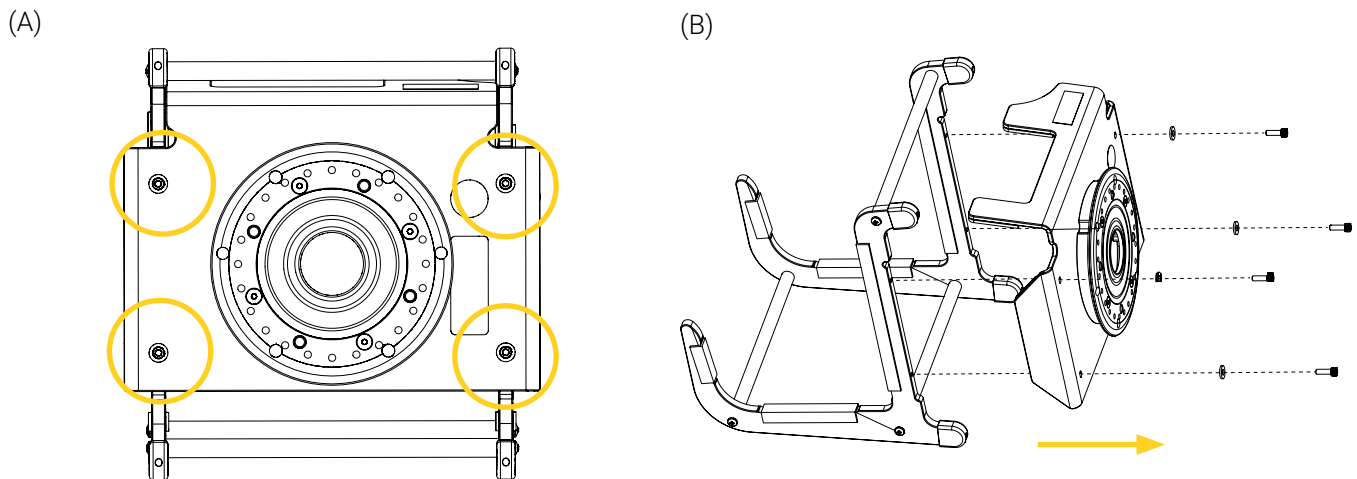

Figure 7: Removing the bottom plate
2. Unscrew and remove the bottom plate using a hex key 5/32 in. (Figure 7), then set it aside with it's hardware temporarily.